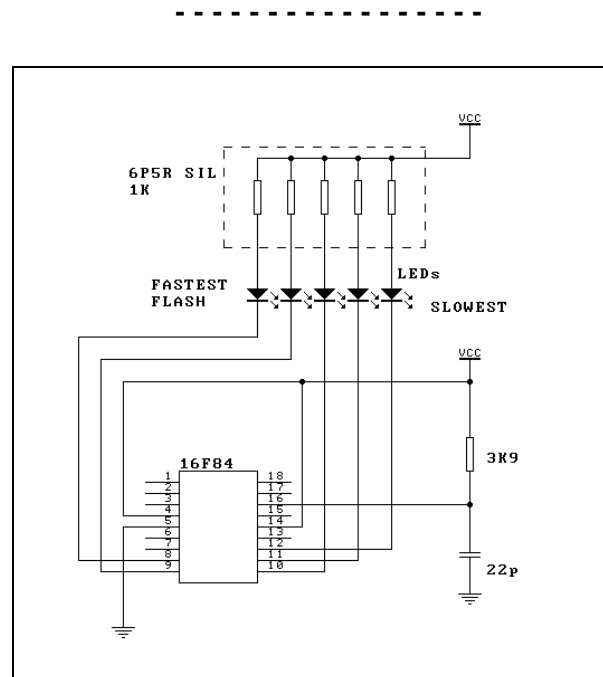

Figure 1. Lights.hex Test Circuit
**Schematic.** The schematic for the programmer is given below in Figures 1 & 2. The circuit is also described in manual.doc on the floppy disk. It is in Word 6 format. You should print this out in full.